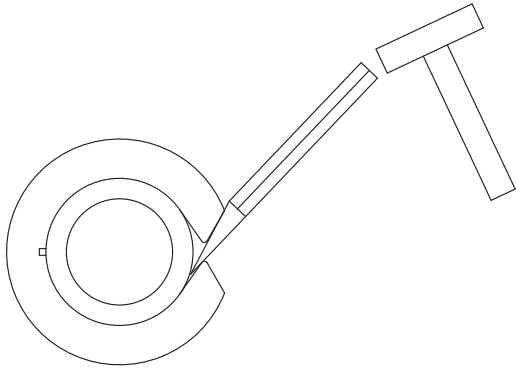

Figure 8
4.2.2.4 Wear spacers are slotted to allow for in-place removal. Using a narrow chisel wedged between the stud and the spacer, as shown in Figure 8, wedge/pry the wear spacer until it fractures and is clear to be removed from the stud. Repeat for the remaining spacers in the set that is to be removed.